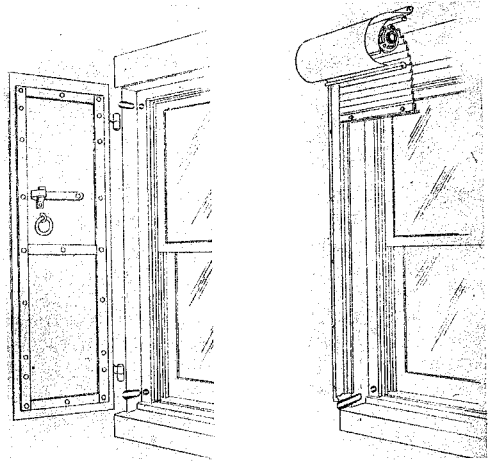

Fig. 3 — Entrance at Shutter of Fire Screen
- Cut slot in seam of brick as shown in Fig. 3. Be sure slot is deep enough so wire is cleared when shutter or screen is operated.